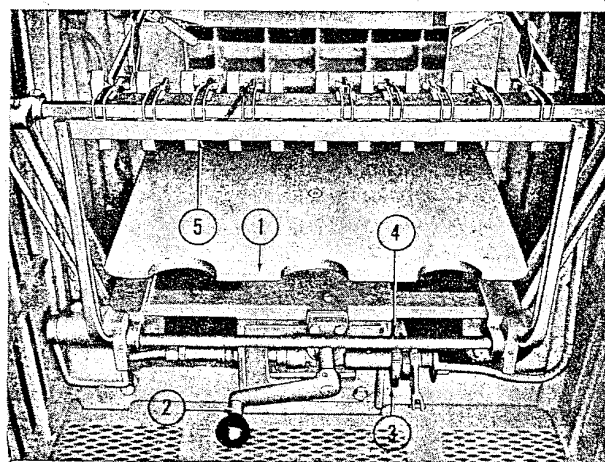

Figure 32—Delivery Table
(1) HOW TO SET LOWERING OF DELIVERY TABLE. (See figure 32.)—The delivery table (1) may be raised or lowered manually by turning the delivery table crank (2). The crank must be pushed in when raising or lowering the table. When starting a job, the delivery table should be raised to its highest position.
The distance the table lowers at each press impression is controlled by the setting of the delivery table set wheel, (3) figure 32. The setting of the delivery table set wheel is dependent upon the thickness of stock being run. When starting a job, run the press until delivery pile has built up to about 1", then set delivery set wheel by engaging the set wheel spring, (4) figure 32, with the notch in the set wheel that will give the required amount of delivery table drop for the stock being run. With a little experience the operator will learn the correct settings for the various thicknesses of stock.
To remove pile from delivery table, lower the delivery sheet stop finger bar, (see (5) figure 32).